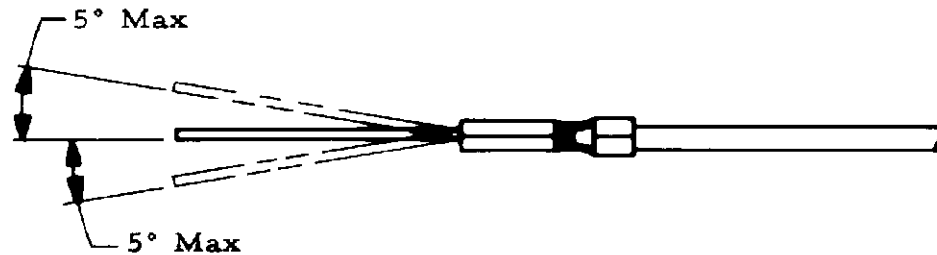

Figure 4
B. The side to side bending of the uninsulated solid wire shall not exceed the limits specified in Figure 4.